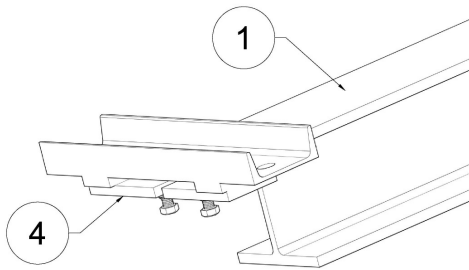

Figure 1
3. Assemble the Mat Hoist Clamp Assemblies (Item 4) to the Mat Storage Assembly as shown in Figure 1. Each of the 3 clamps should be located directly above the center of a cable drum. Refer to the installation drawings sent with the shipment for further detail.